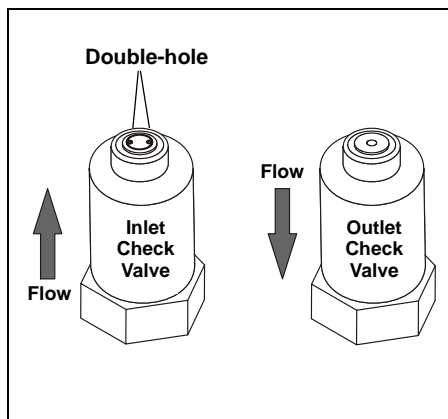

Figure 5-8. Check Valve Assemblies
1. Install the new inlet cartridge (P/N 047755) in the inlet check valve housing so that the double-hole end of the cartridge is visible (see Figure 5-8).